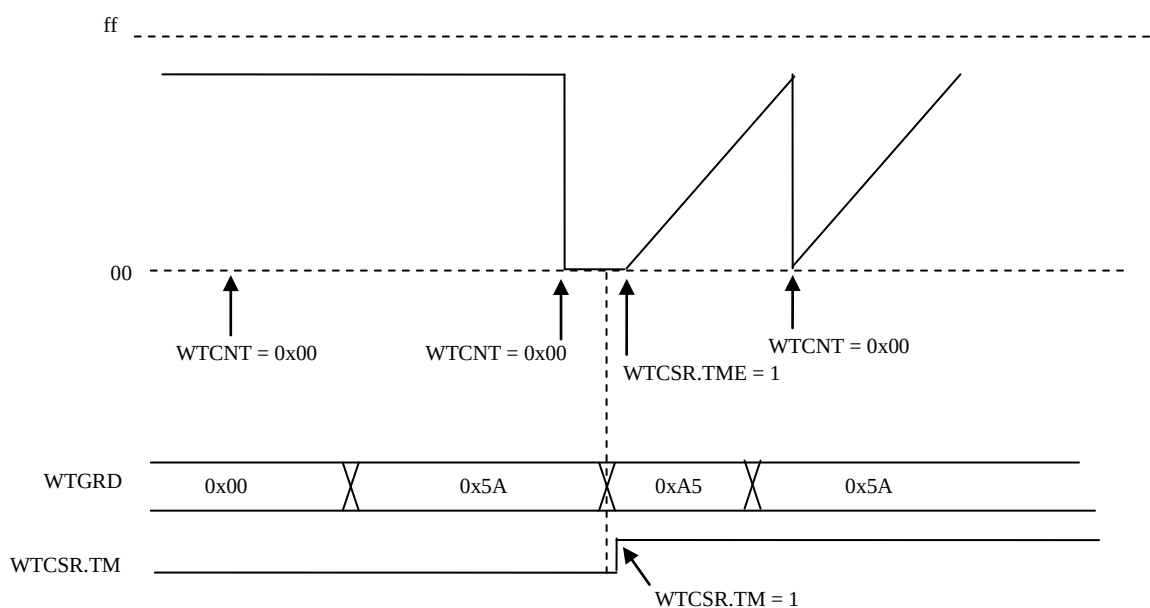

Figure 16-6. Writing to WTCNT and WTCSR Registers
- After 0x5A is written to the WTGRD register, write to the WTCNT register. Figure 16-6 shows the operation that is 0x00 is written to the WTCNT register.
- After 0xA5 is written to the WTGRD register, write to the WTCSR register. Figure 16-6 shows the operation that is 1 is written to the WTCNT.TM and WTCNT.TME bits.